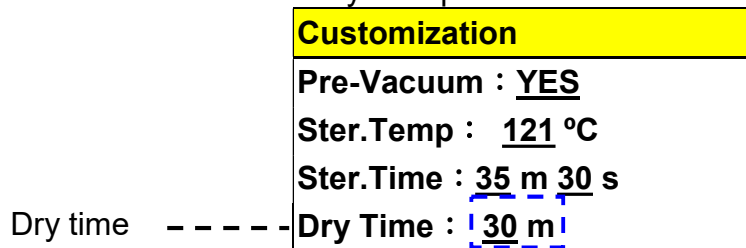

Figure 97
- H. Press  or  button to move the cursor as shown in Figure 97
- Press  button to store dry time parameter as shown in Figure 97.